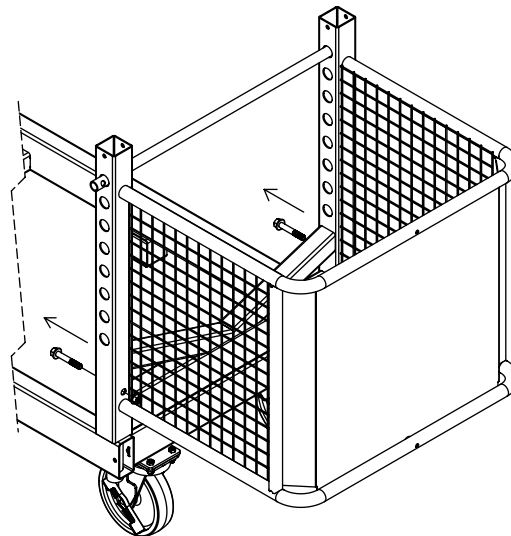

Figure 5A
1. Remove both assembly bolts from the base of one of the extension baskets and lift the extension basket off the base tubing uprights. (See Figure 5A).